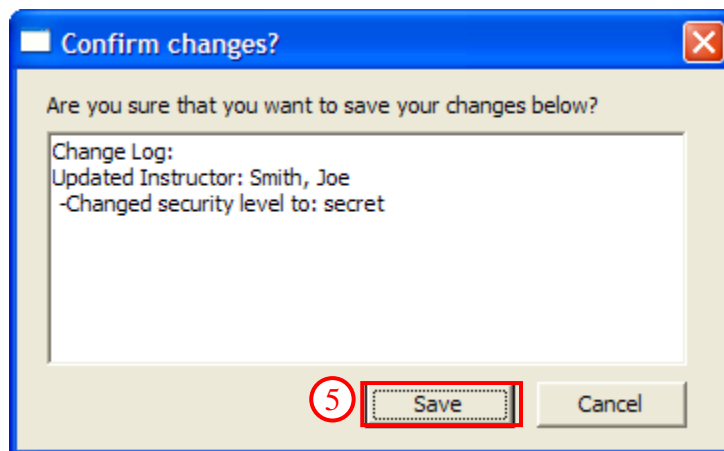

Figure 36. Confirm Changes Dialog - Instructor
5. A prompt is displayed detailing the addition/changes (Figure 36). Click the [SAVE] button to confirm.